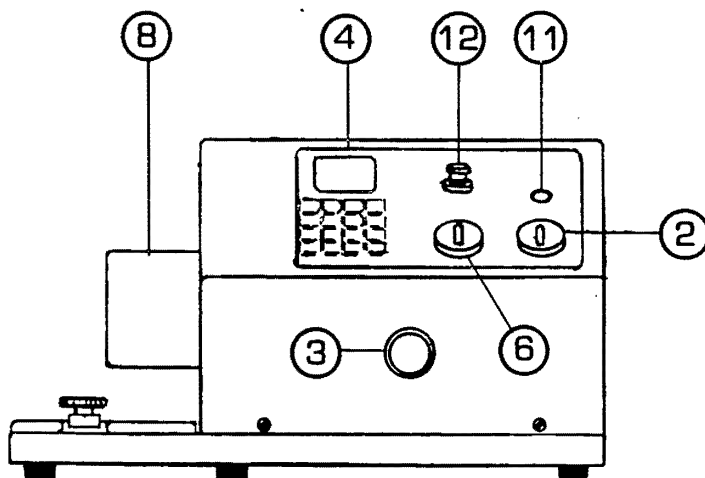

Figure 3
- 2 - **POWER SWITCH** - Turns power on and off. [Fig. 3]
- 4 - **KEYPAD** - Controls all power base functions. [Fig. 3]
- 6 - **PUMPING DIRECTION SWITCH** - Selects pumping direction - arrow up (via suction tube) or arrow down (via hopper). [Fig. 3]
- 8 - **GUARD** - Shields drive mechanism and houses pump driver seal. [Fig. 3]
- 11 - **PILOT LIGHT** - Indicates power on. [Fig. 3]
10. Switch power on using SWITCH (2) (Fig.3, Page 5).
18. PUMPING DIRECTION SWITCH (6) (Fig. 3) must be turned to ARROW UP position. Pumping direction can **only** be changed after power has been switched off and on.
4. Switch power on using SWITCH (2) (Fig.3, Page 5).
9. Turn PUMPING DIRECTION SWITCH (6) (Fig.3) to ARROW DOWN position.